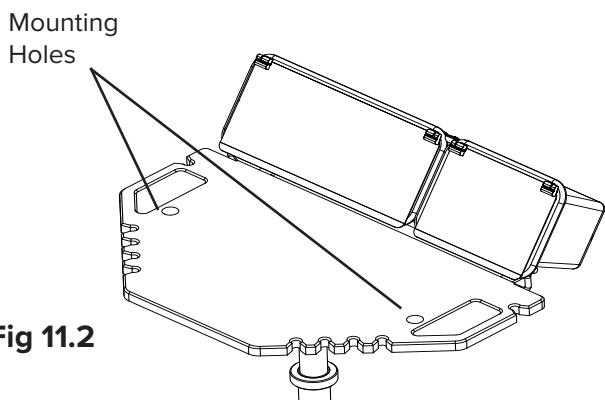

Fig 11.2
1. The Top Tier of your workstation must be assembled on-site by inserting the poles from the top tier into the mounting holes as shown (Fig 11.2).